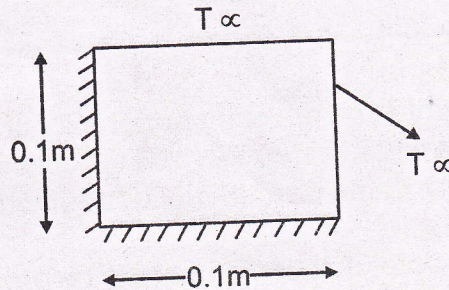

Figure 5
3. a) Find the temperature distribution in the square plate as shown in figure 5. Assume $K = 30 \text{ W/m K}$, $T_{\infty} = 50^{\circ}\text{C}$ and $q = 100 \text{ W/m}^3$. 20